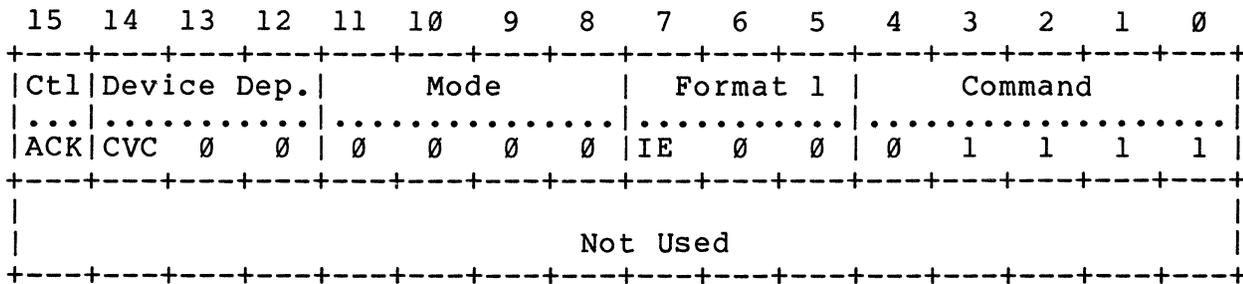

Figure 3-20 Get Status Command Packet
3.3.4.2 Get Status Command -- Figure 3-20 illustrates the Get Status command packet. This command causes a message packet to be deposited in the Message Buffer area in order to update the Extended Status registers. However, after the end of any command except Message Buffer Release, the TSV05 hardware automatically updates the Extended Status registers, so this command need be used only when the TSV05 has been left idle for some time, or when a status register update is desired without performing a tape motion command, or when the user desires to read the unit number of the currently selected tape transport (deposited in bits 2-0 of Extended Status Register 2).